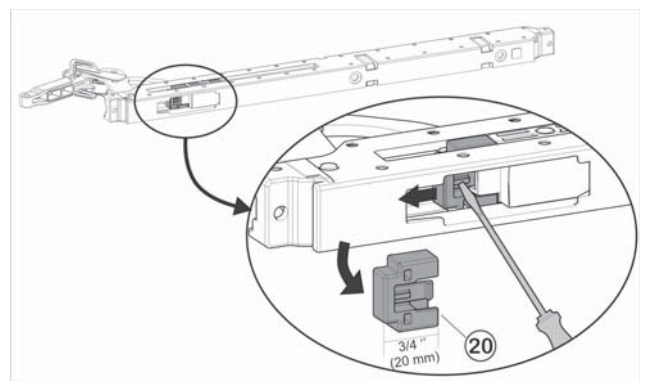

Fig. 56
- Remove opening limiter (110°) Fig. 56 (20) on soft stop mechanism: Press down notch using screwdriver and pull off opening limiter Fig. 56 (20).